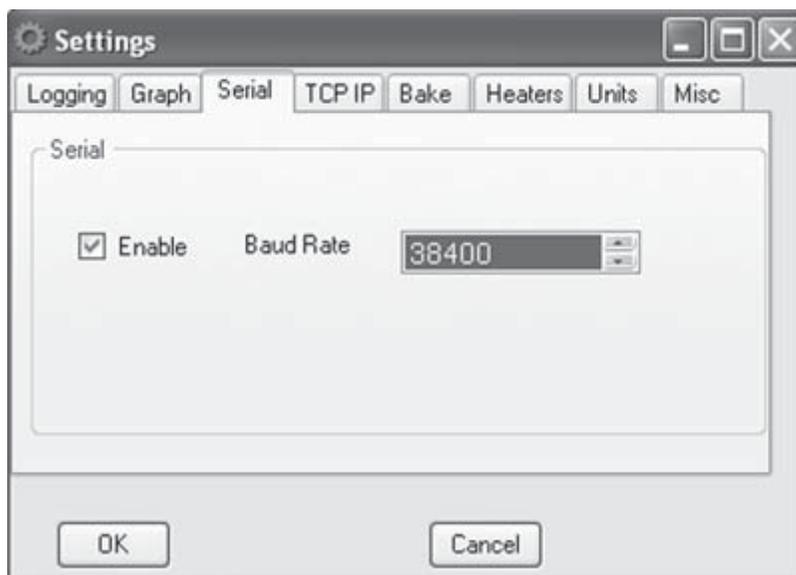

Fig. 2-4. Screenshot of 'Serial' selection in the Settings dialog box
4. Click the "Main" menu of the UGA software, and select "Setup". The following screen will appear as shown in Fig. 2-4
- In the Main menu, select 'Setup'. The 'Settings' dialog box will pop up as shown in Fig. 2-4